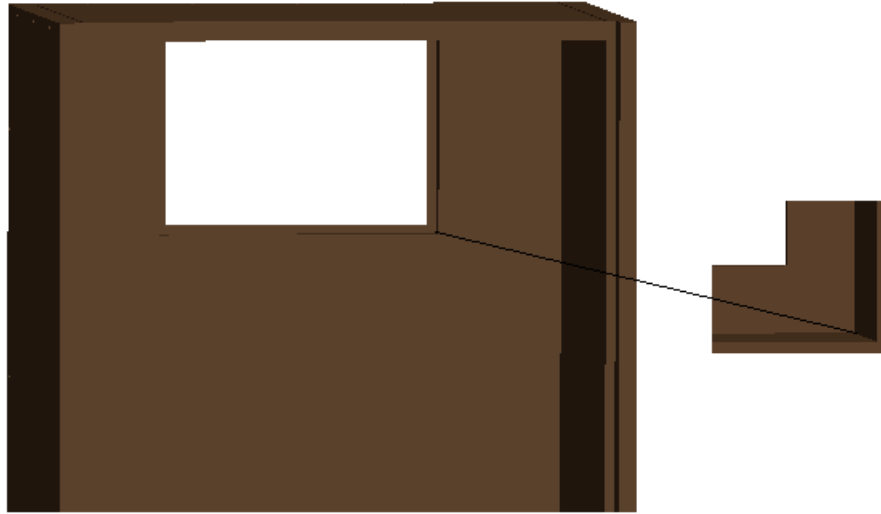

Fig. 2.1 Rear Cutout
- Make a rectangular through hole on the rear or front wall of the cabinet with 7/8" less than the width and height of the cooling unit. Make 1/2" wide lips to place the gaskets as shown in Fig. 2.1.